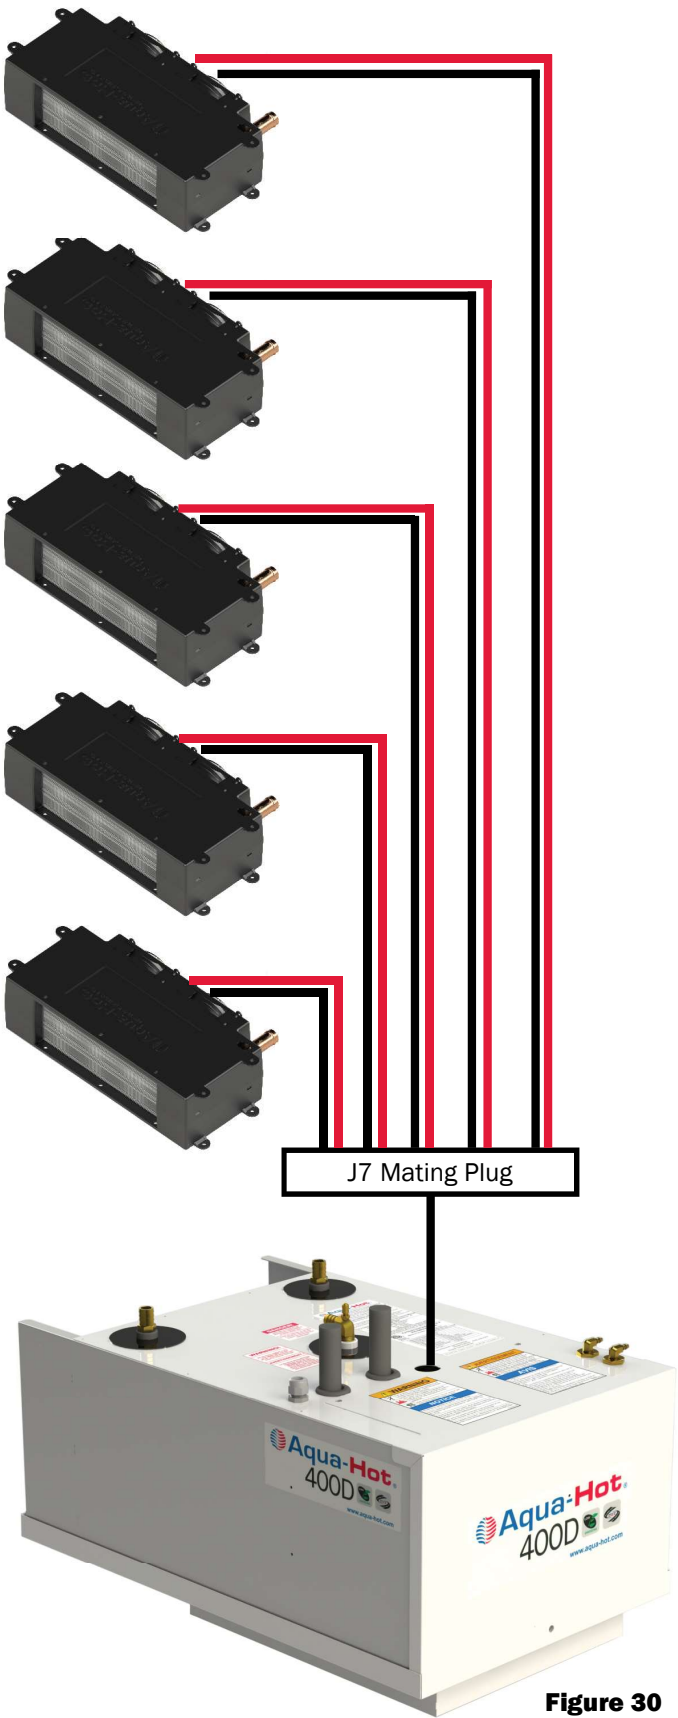

Figure 30
- 1. Wire each heat exchanger (in a heating zone) in parallel to one another as shown in Figure 30.